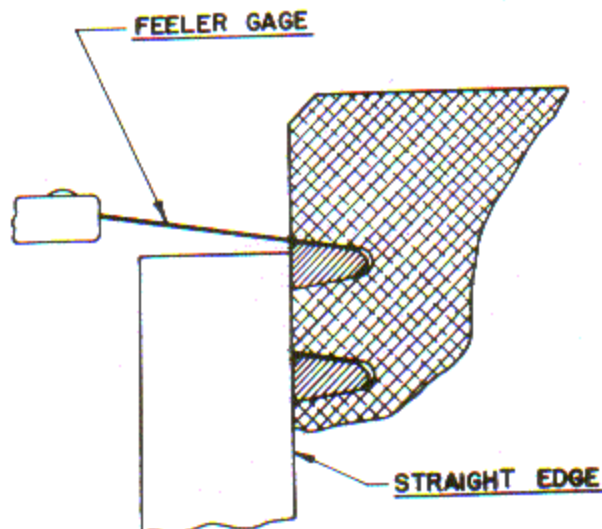

Figure 6-7. Method of Checking Piston Ring Side Clearance
- Side clearance between piston ring and piston (514, 515, 516 and 517). Pistons for Lycoming opposed engines are ground with a slight taper from the skirt to the head, with the exception of the lands between the top compression and oil control rings, which are ground parallel. The clearance on wedge type compression rings, therefore, must be measured as shown in figure 6-7 in order to obtain a true check of the side clearance.
- Inside diameter of piston pin hole (512).
- Clearance between piston skirt and cylinder and piston diameter at top and bottom (519).